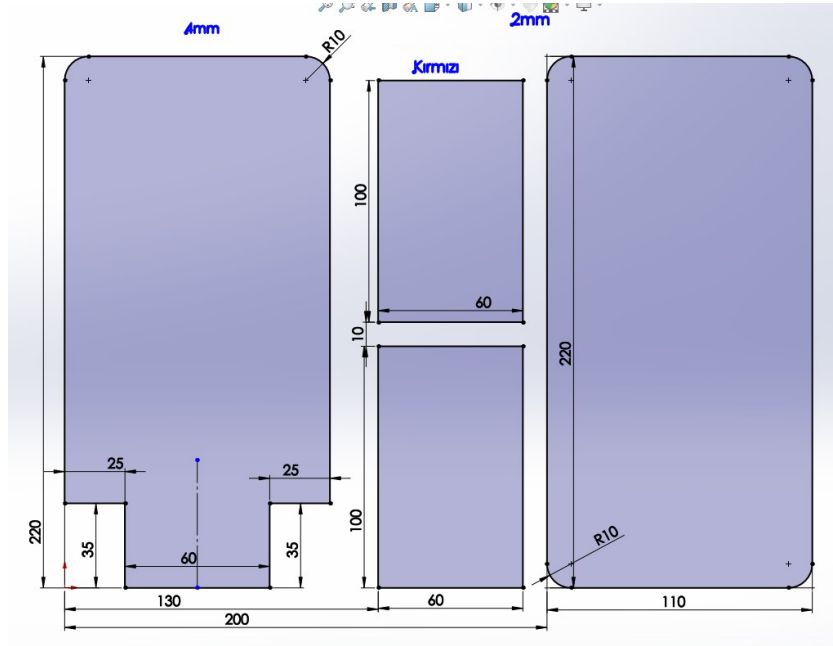
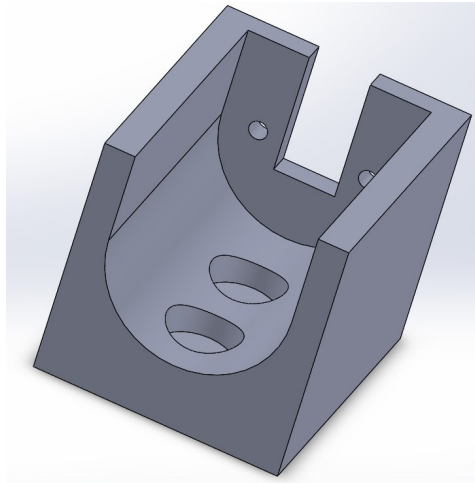

Figure 2: Main Components of the Chassis
Figure 3: Mounting Bracket for the Motor
- The chassis parts were drawn in Solidworks. And the placements of the components on top of the chassis were discussed. The main components can be seen from the *Figure 2*. The mounting bracket for the motor can be seen at *Figure 3*.